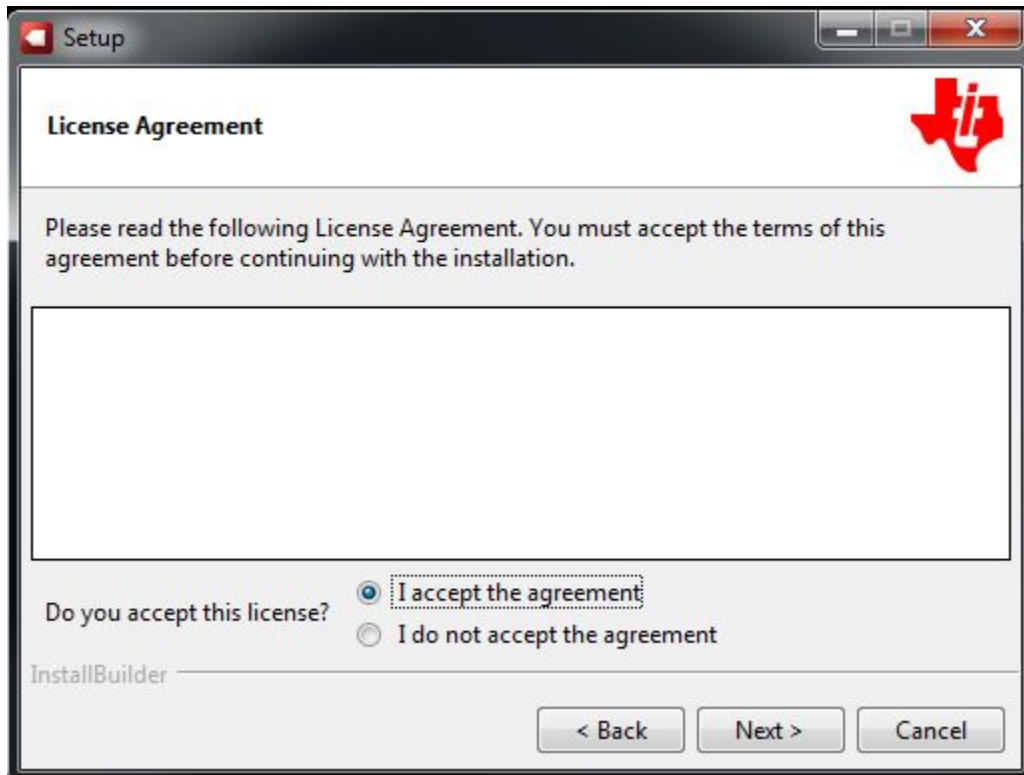

Figure 3. BOOSTXL-ADS7841-Q1 EVM GUI Installation
2. Accept the *License Agreements* and follow the on-screen instructions to complete the installation (see Figure 3).